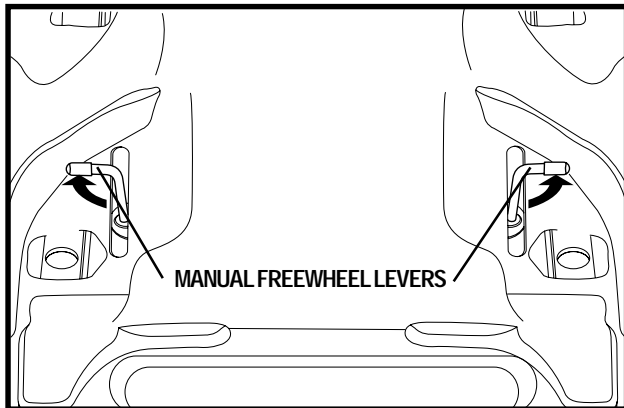

Figure 8. Drive Disengaged (Dual Levers)
For your convenience, your power chair is equipped with two freewheel levers. See figures 8 and 9. These levers allow you to disengage the drive motors and maneuver the chair manually.
1. Turn the freewheel levers outward to disengage the drive motors. See figure 8.